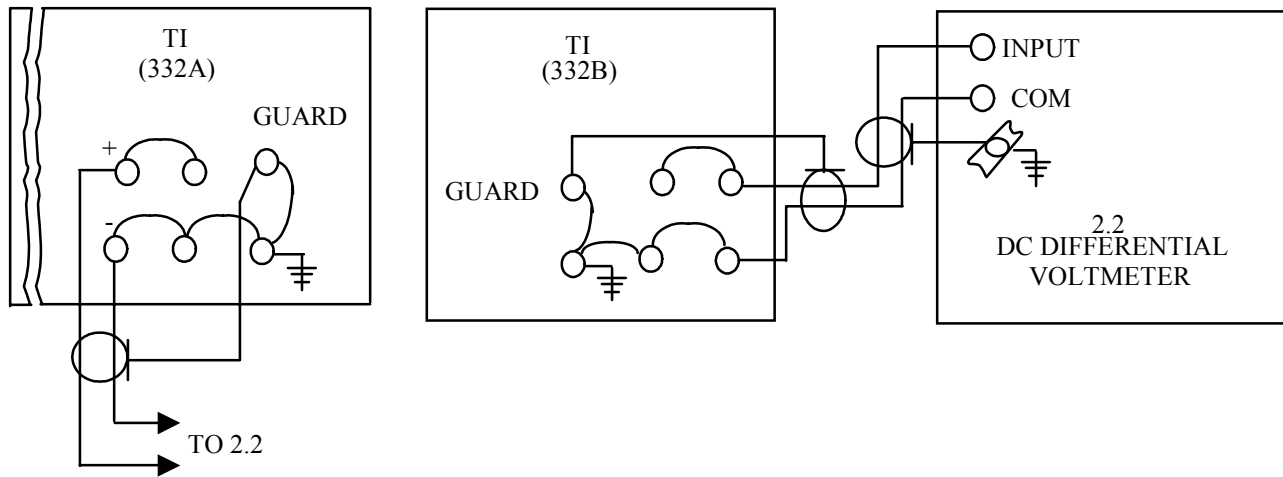

Figure 3. Linearity Test Configuration
4.4.2 Connect the equipment as shown in Figure 3. Ensure that the strap between the differential voltmeter ground and COM terminals is removed.